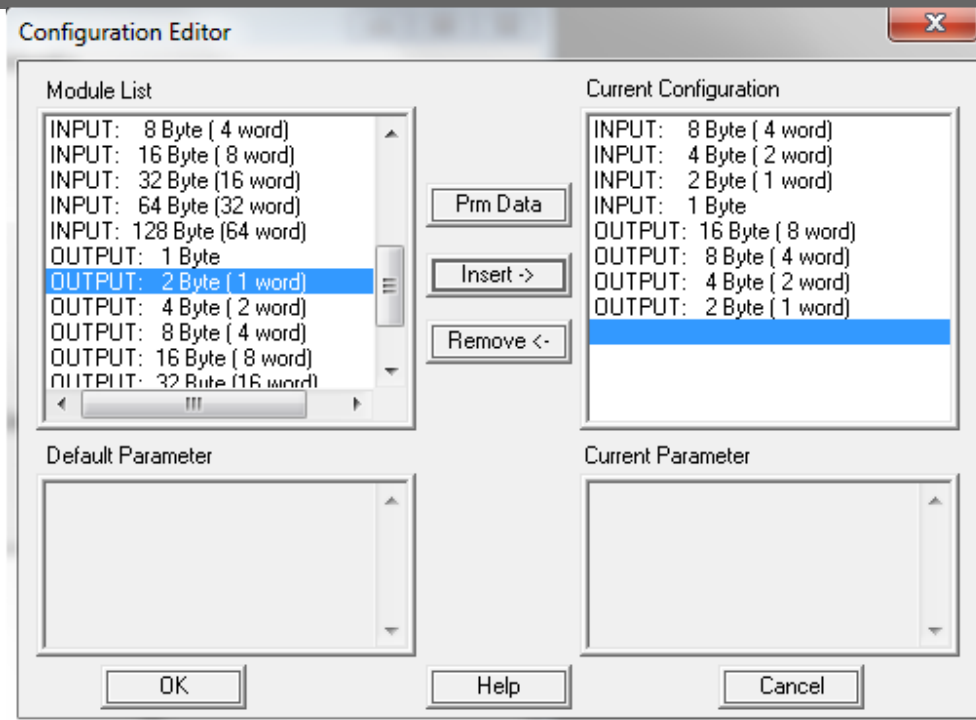

Figure 37 - Configuration Editor
- 3- Add the necessary number of input and output bytes. According to the configuration made, 15 bytes are necessary for input data and 30 bytes are necessary for output data, see figure 37. Then click on the **Ok** button.